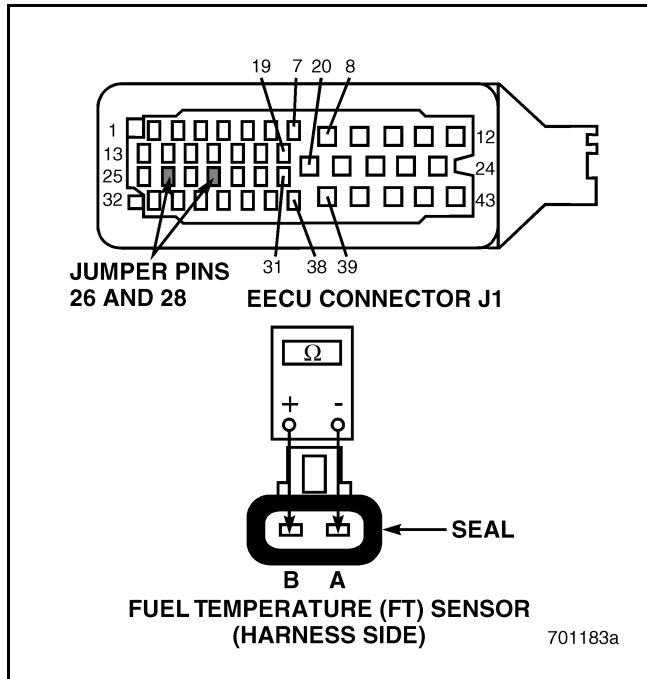

Figure 42
2. Disconnect the Fuel Temperature (FT) Sensor connector.
4. Connect a jumper between J1 pin 28 and J1 pin 26 of the EECU harness connector (see Figure 42).